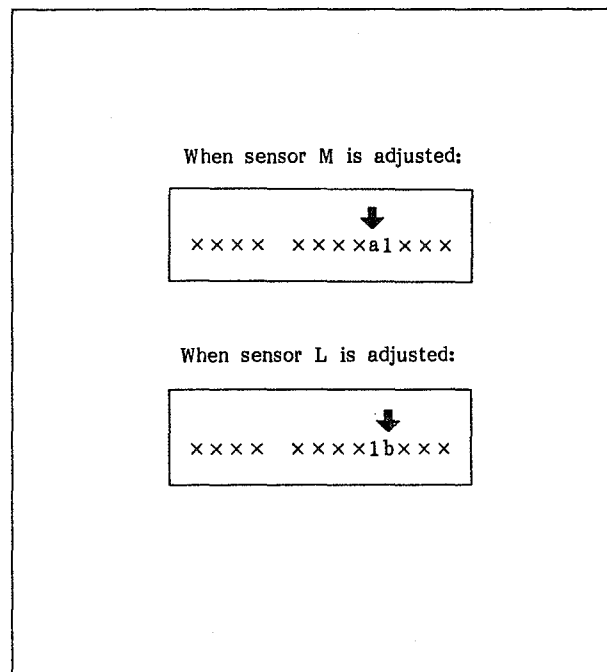

Fig. 6-43 Adjusting the Sensor Position
13. Rotate the timing pulley (L) manually and set the reel motor so that the amount of the limiter compression (Cs or Ct, whichever is smaller) is between 0.5 and 1.0 mm in the position for the M cassette.
14. Loosen the screw that holds the sensor M. Move the sensor M and stop it when the indication "a" on the control panel shown in the upper drawing of Figure 6-43 changes from 0 to 1. Fasten the sensor M securely at that position.
15. Rotate the timing pulley (L) manually and set the reel motor so that the amount of the limiter compression (Cs or Ct, whichever is smaller) is between 0.5 and 1.0 mm in the position for the L cassette.
16. Loosen the screw that holds the sensor L. Move the sensor L and stop it when the indication "b" on the control panel shown in the lower drawing of Figure 6-43 changes from 1 to 0. Fasten the sensor L securely at that position.